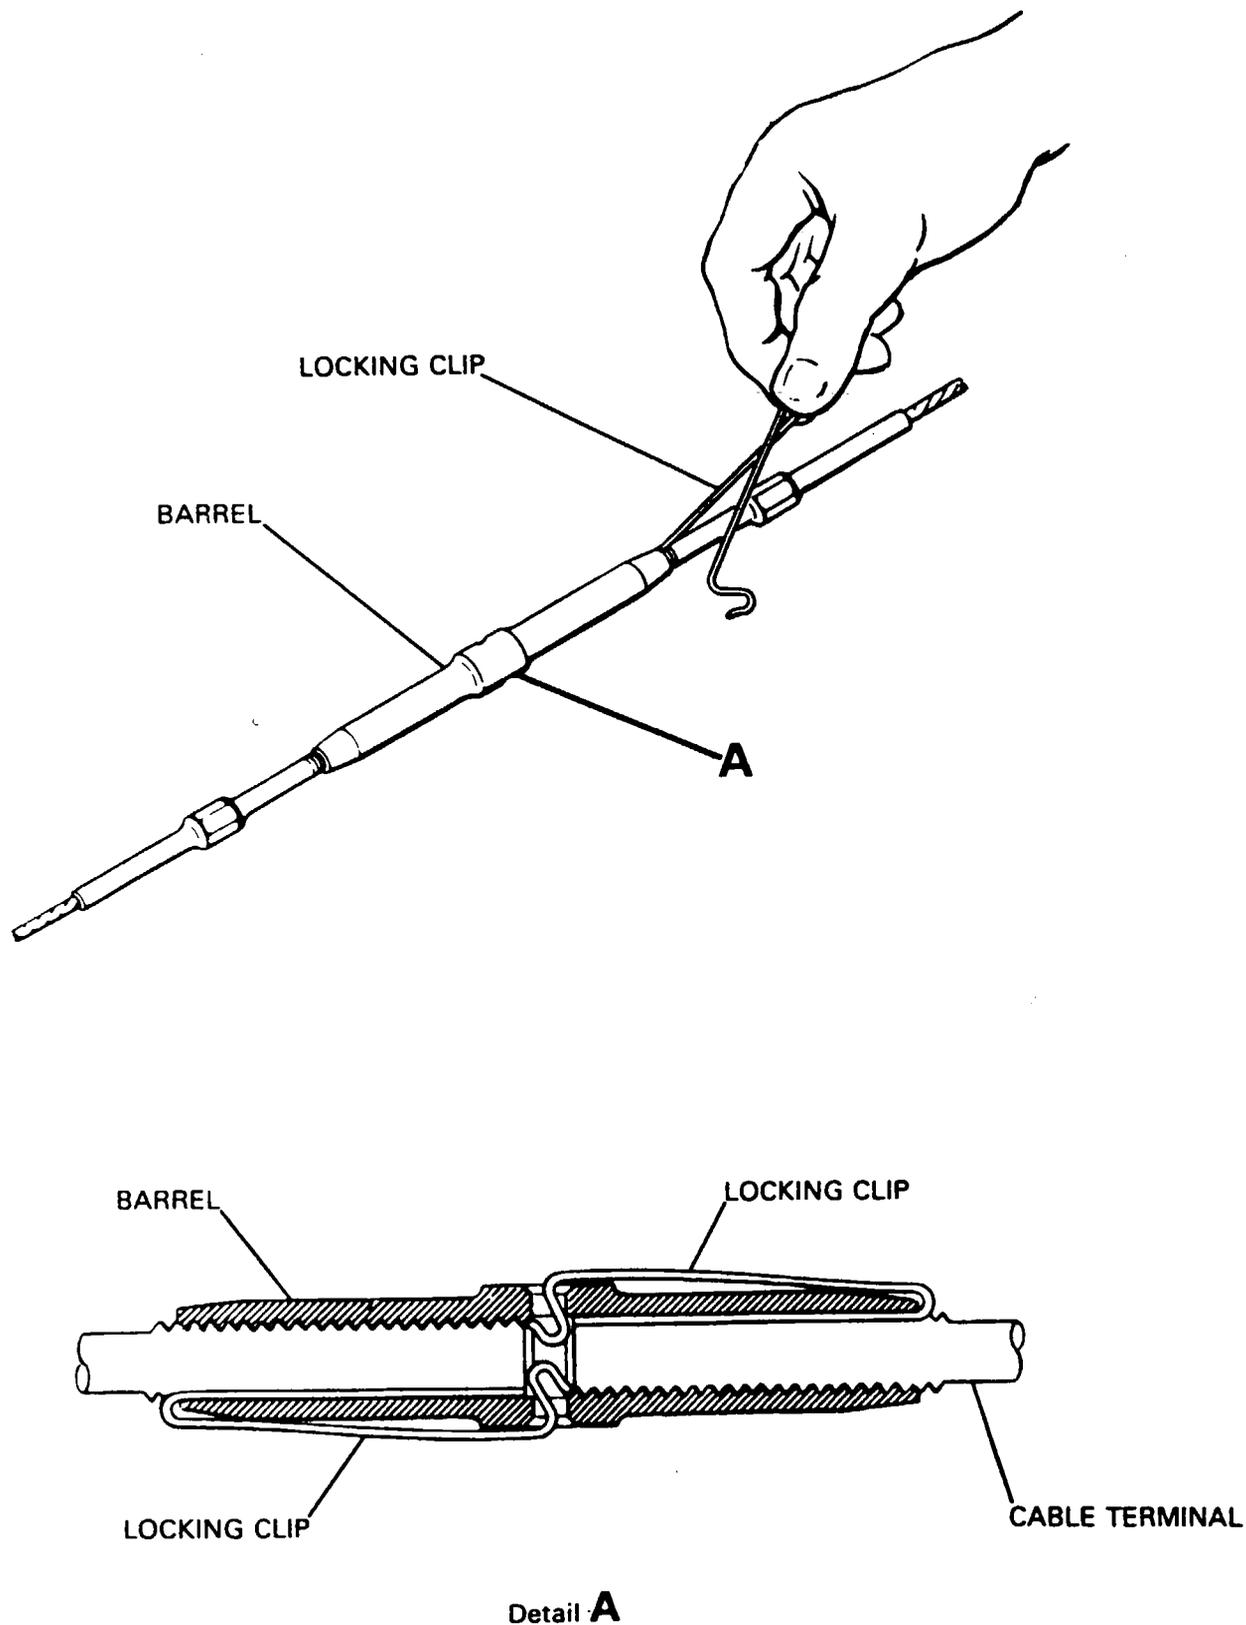

Figure 1-6. Safetying Turnbuckle Assemblies
a. Safelying Turnbuckles. (See Figure 1-6.)
2. After turnbuckle has been adjusted to its locking position, with slot indicator groove on terminals and slot indicator notch on body aligned, insert end of locking clip into terminal and body (refer to Figure 1-6) until U-curved end of locking clip is over hole in center of body.